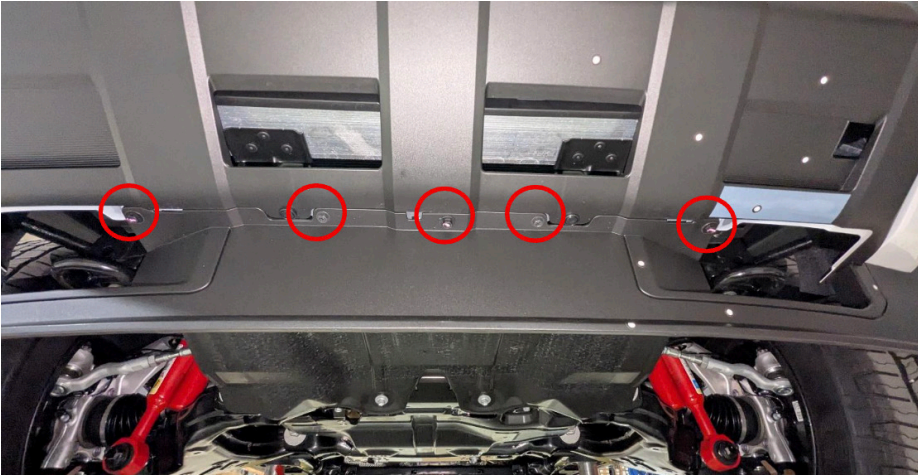

Figure 10
5. Using a 10mm socket wrench, remove the five (5) remaining screws from the air dam. (Figure 10)